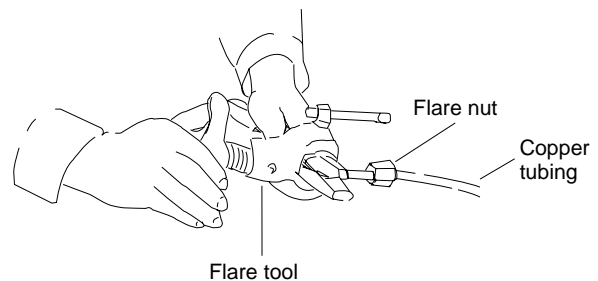

Fig. 38b
- (3) Remove the flare nut from the unit and be sure to mount it on the copper tube.
- (4) Make a flare at the end of copper tube with a flare tool.\* (Fig. 38b)